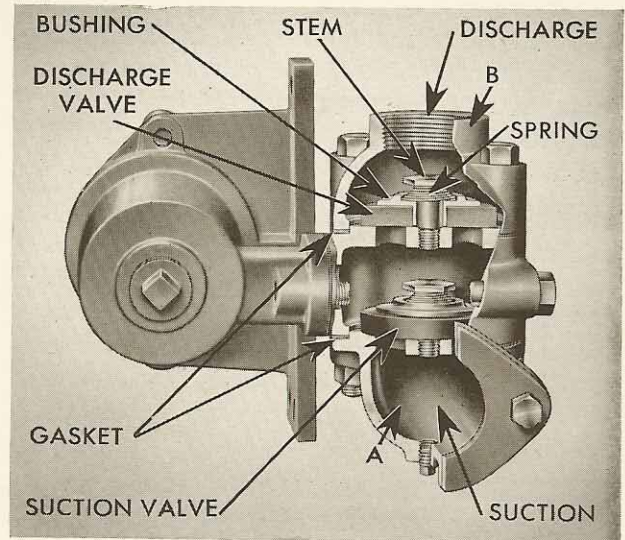
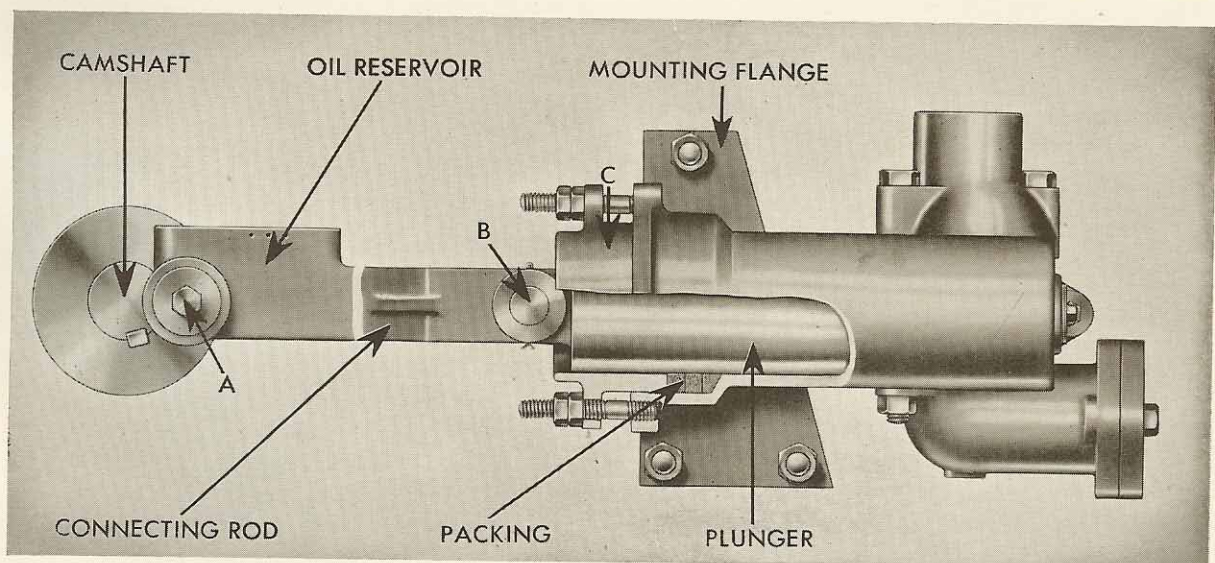

FIGURE 22-4
FIGURE 22-3
8. BILGE PUMP: This pump, which lies across the forward end of the engine, is driven by an extension of the camshaft. Figure 22-3 shows the connecting rod, the pump body and the plunger. Figure 22-4 is a view of the end of the pump cut away to show the valves.
9. REMOVAL OF THE PLUNGER: Take off the cap screw and washer (A), Figure 22-3. Remove the two cotter pins and the cross-head pin (B). Remove the packing gland (C) and withdraw plunger.
12. DISASSEMBLY OF THE VALVE CHAMBER: Figure 22-4 shows this assembly. Disconnect the pipes leading to the suction bonnet (A) and the discharge bonnet (B). Remove the nuts from the two bolts clamping these two bonnets to the valve body. The suc-